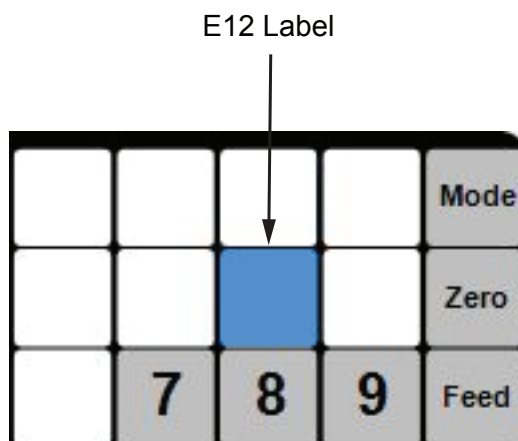

Figure 32-2
21. Double click on the applicable preset key. The Edit Preset Key - SlipNet.mdb dialog box will display. See Figures 32-2 and 33-1.